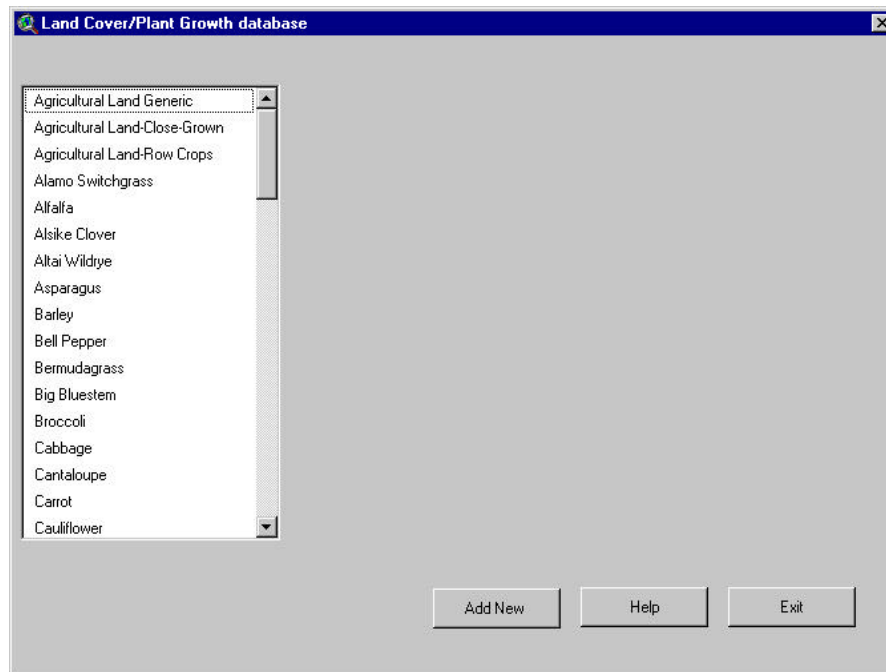

Figure 14.28
2. The Land Cover/Plant Growth database dialog box will be displayed (Figure 14.28).